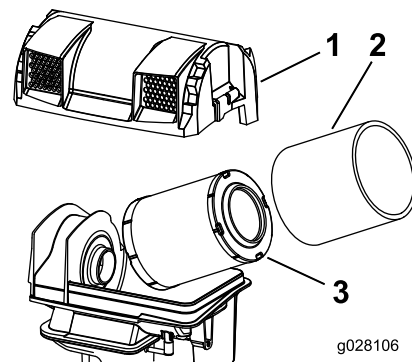

Figure 38
6. Release the latches on the air cleaner and pull the air-cleaner cover off the air-cleaner body (Figure 38).
8. Gently slide the primary filter out of the air-cleaner body (Figure 38).